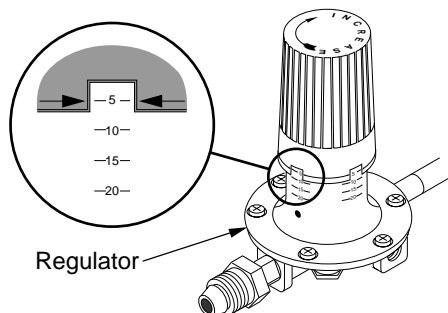

Figure 5 - Adjustable Regulator Set At 7 psig
- Adjust regulator between 7 and 20 psig (see Figure 5). *Note:* Higher regulator setting will allow heater to produce more heat.